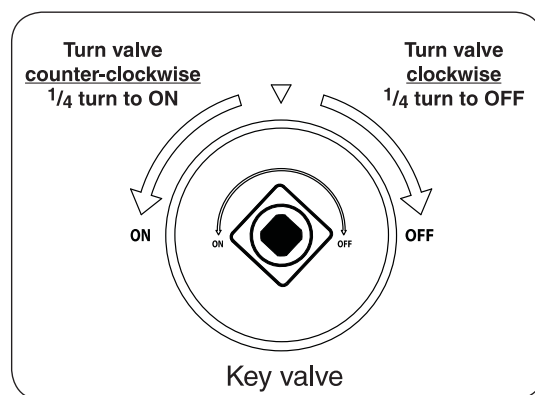

Fig. 21-2
- 4. **Once the match is burning and in position**, turn the key valve counter-clockwise a $\frac{1}{4}$ turn to the **ON** position (see Fig. 21-2). Your burner should light.
To extinguish your gas burner, turn the key valve clockwise a $\frac{1}{4}$ turn to the **OFF** position (see Fig. 21-2). Be sure the key valve is turned fully off to avoid any gas leakage.